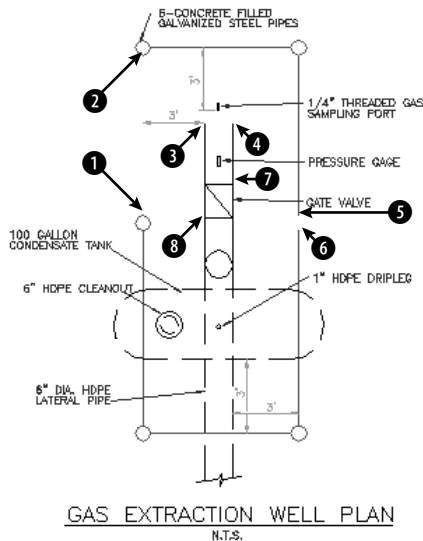
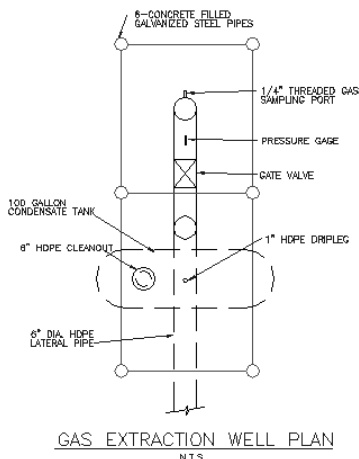

Figure 11-12: This gas extraction well plan drawing needs to be completed.
Figure 11-13: The completed drawing.
2. Save the file as `ab11-02.dwg` in your AutoCAD Bible folder. This drawing is shown in Figure 11-12. The current layer is 0. Make sure OSNAP is on. Set running object snaps for endpoint and quadrant.
4. Start the LINE command. Draw a line from ❶ to ❷ in Figure 11-12, using the Quadrant running object snap.
7. Start the CIRCLE command. Right-click and choose 2p to use the two-point option. Draw a circle from the endpoint of ❸ to ❹ in Figure 11-12 using the Endpoint running object snap.
8. Without changing the layer, start the CIRCLE command and again use the 2p option. Draw a circle between the endpoints at ❺ and ❻.
10.  Pick any red object (the Pipes layer). Choose Make Object's Layer Current from the Layers toolbar. The Pipes layer is now the current layer. Draw a line from the right quadrant of the circle at ❶ to the left quadrant of the circle at ❸ and ❹ in Figure 11-12.
12. Draw a line from the endpoint at ❺ to the endpoint at ❽.
14. Save your drawing. It should look like Figure 11-13.